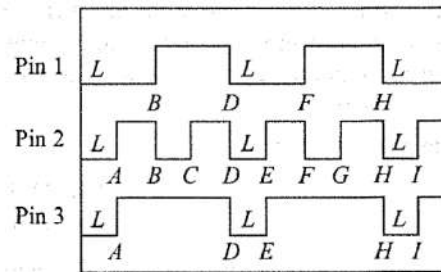

Fig. 2.8 Timing diagram
- **Timing Diagram** Figure 2.8 shows an example of a timing diagram for a 2-input OR gate. The input voltages drive pins 1 and 2 of 7432a. Notice that the output (pin 3) is low only when both inputs are low. The output is high the rest of the time because one or more input pins are high.